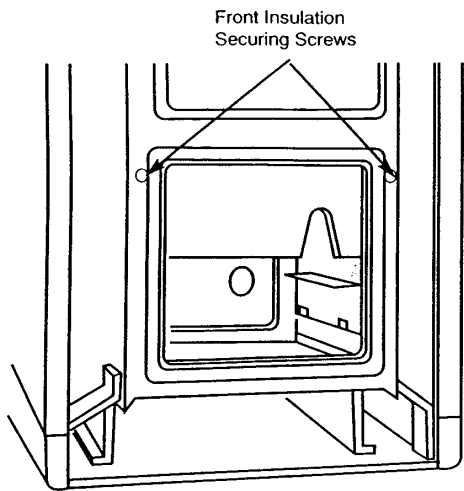

fig 9 - Insulation Combustion Box Door
- 7) Release the two screws securing the front insulation assembly and remove the assembly (Fig. 9).
- 2) Release the 2 screws securing the front insulation assembly and remove the assembly (Fig 9).